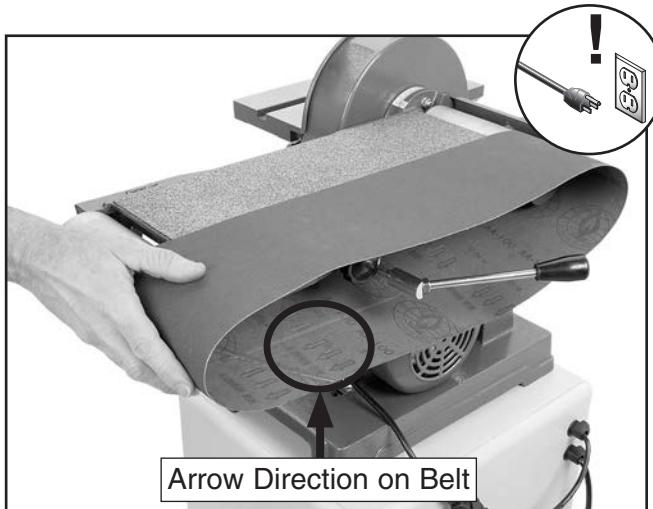

Figure 75. Installing new sanding belt.
5. Install a new sanding belt onto the idler and drive rollers, making sure the arrows on the bottom of the belt face the front of the sander, as shown in **Figure 75**.